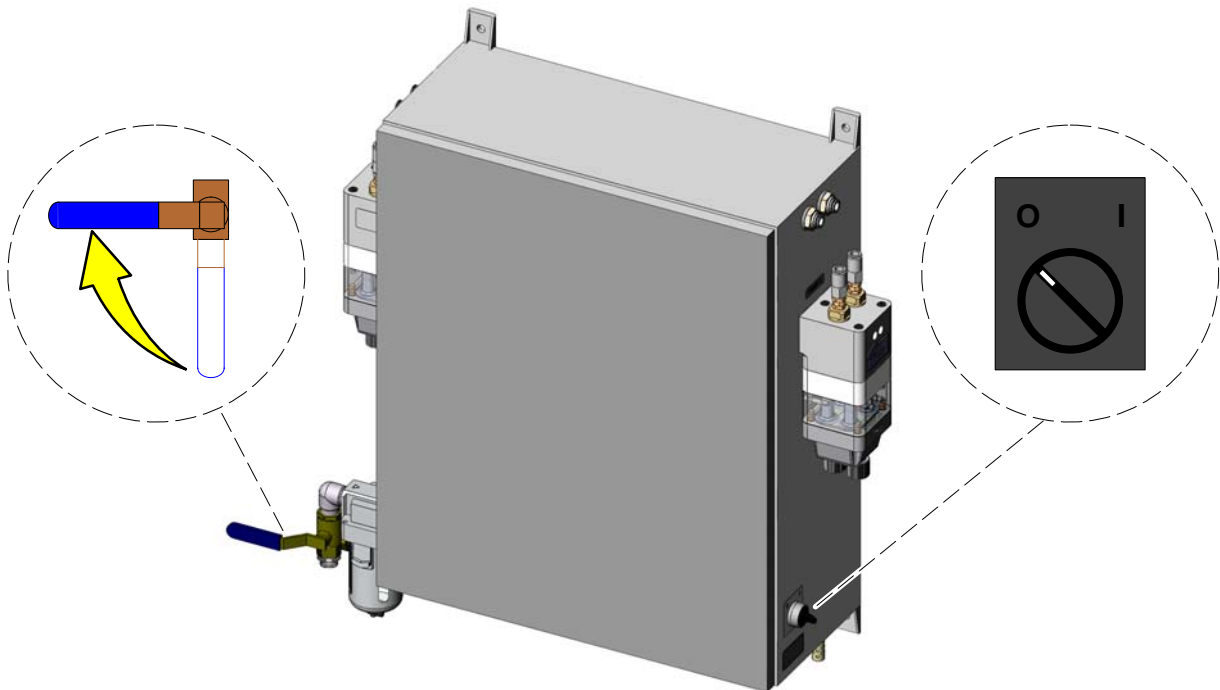

Figure 1 Turning Off Air and Power
1. See Figure 1. Close the air supply valve and trigger the guns to relieve air pressure.